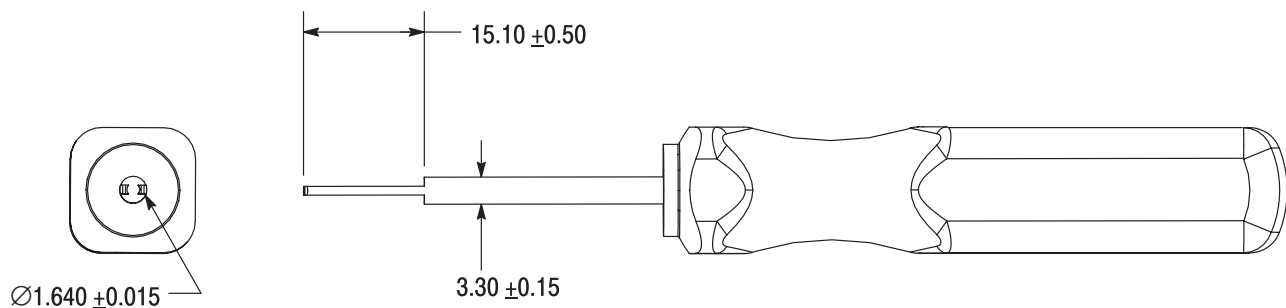

Figure 3
5. REPAIR/REPLACEMENT (Figure 3)